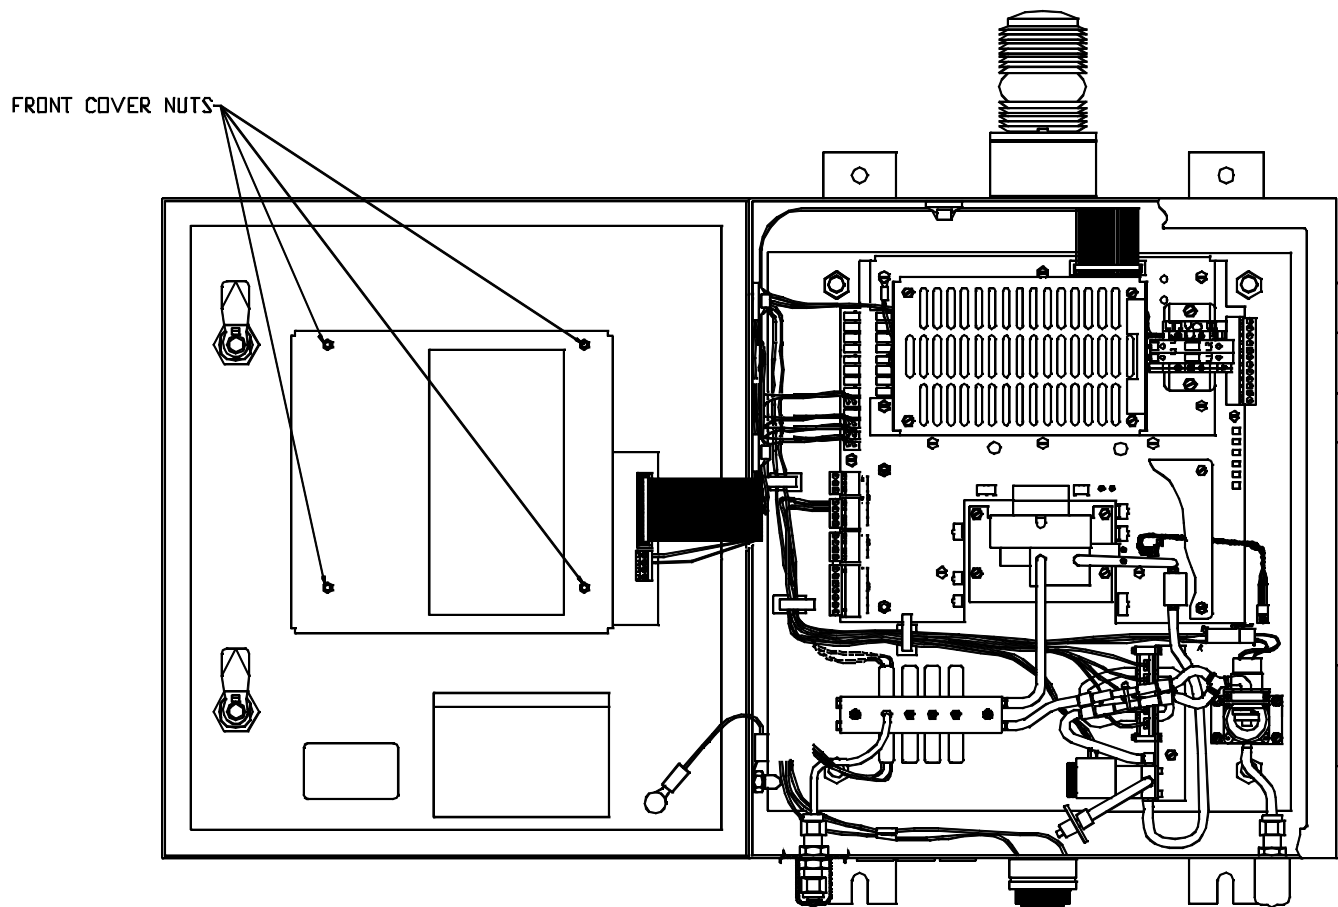

Figure C-4. Access to Switches
2. On the inside of the front door, locate the four front cover nuts securing the metal cover (FIGURE C-4).